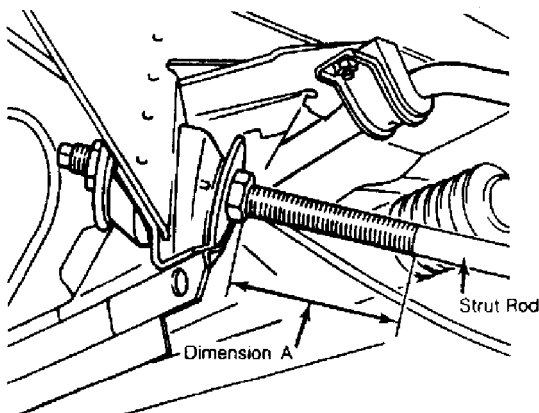

Fig. 2: Measuring Strut Rod
1) Raise and support vehicle. Remove wheel. Detach stabilizer link from control arm. Measure and record dimension "A" from end of threads to rear nut. See Fig. 2. Back off rear nut to permit removal of strut rod from control arm.
Measure and record dimension "A" from end of threads to rear nut. See Fig. 2. Note how spacers and bushings are installed. Remove retaining nuts and bolts. Remove strut rod.